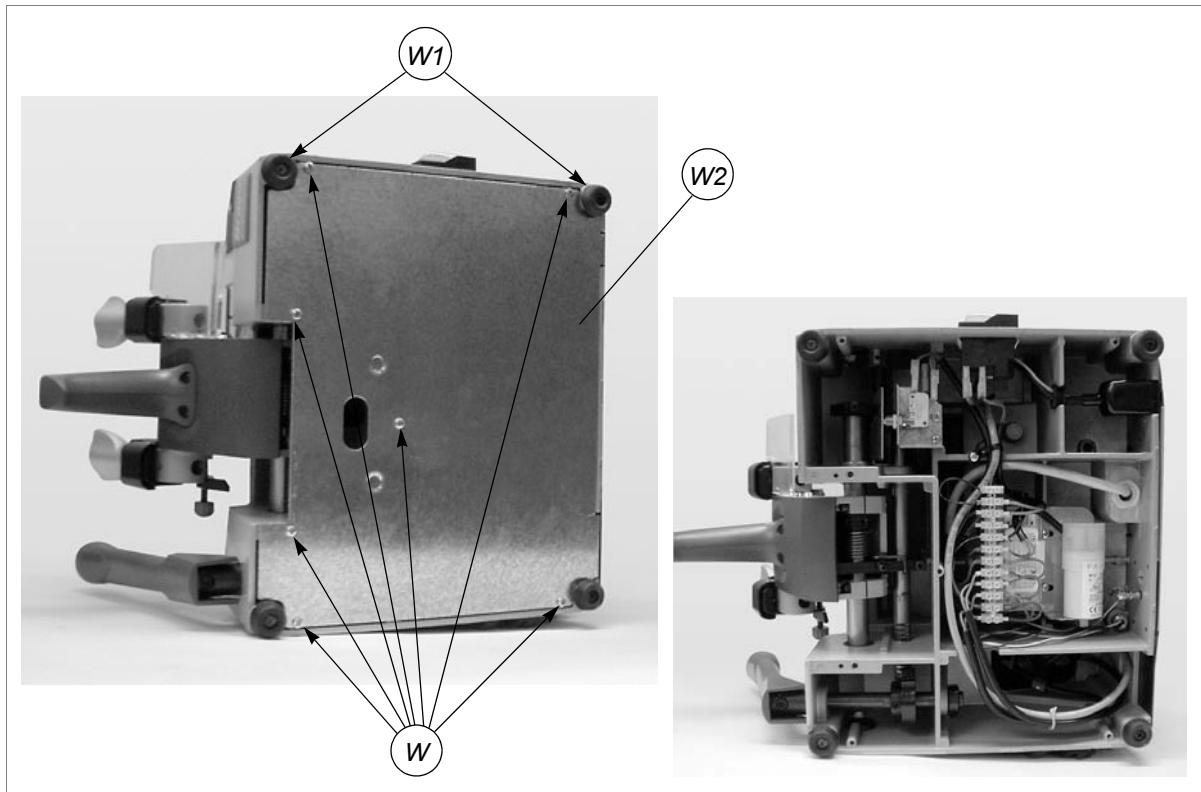
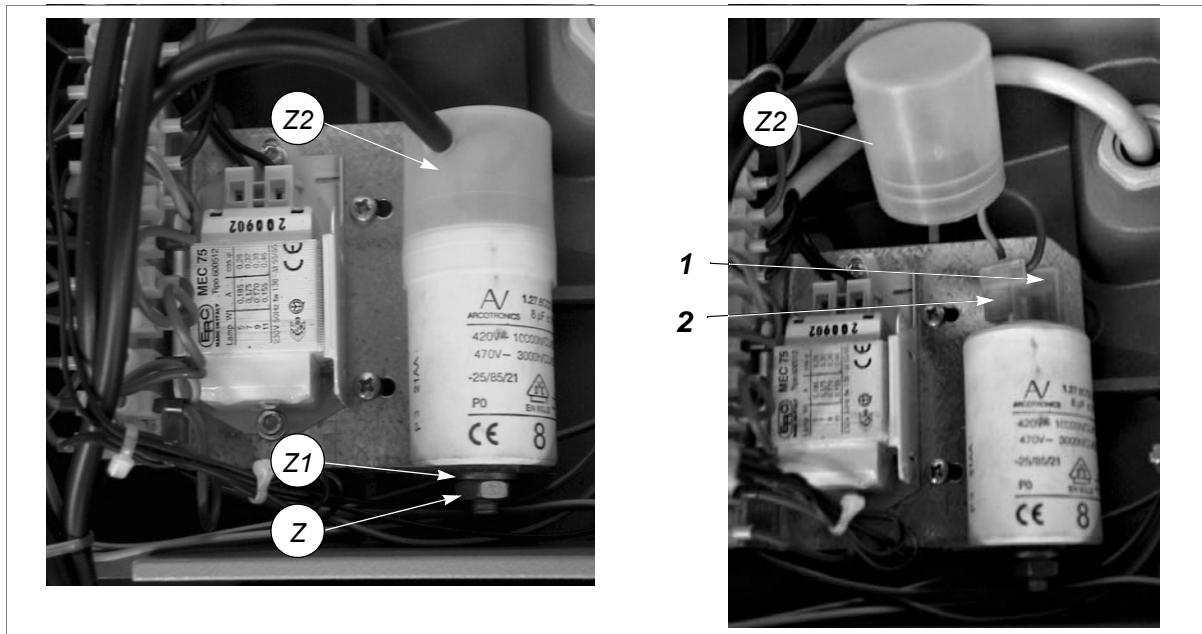
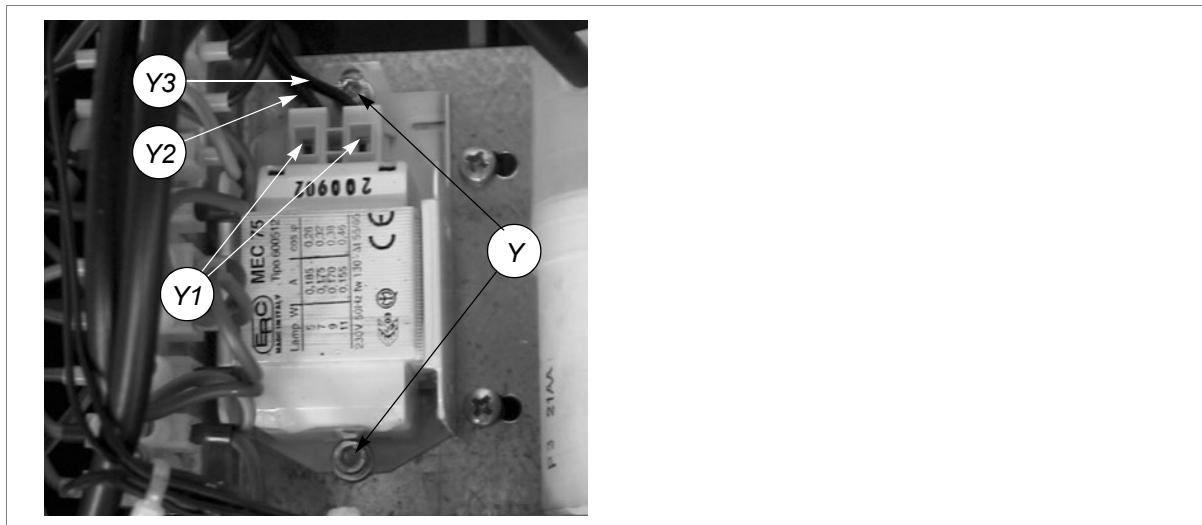

Fig. 32
Fig. 34
Fig. 35
- 4) Loosen the 7 screws (W) and 2 feet (W1) and remove the bottom safety plate (W2) (fig.32).
- 1) Loosen the nut (Z) and remove the washer (Z1) and condenser (fig.34).
- 2) Fit the new condenser and fix with the washer (Z1) and nut (Z).
- 6) Replace the bottom safety plate, fix with the 7 screws (W) and 2 feet (fig. 32, page 24). Fit the swarf tray.
- 1) Loosen the 2 screws (Y) and remove the reactor (fig.35).
- 4) Place the new reactor in its seat and secure with the 2 screws (Y).
- 5) Replace the bottom safety plate and fix with the 7 screws (W) and 2 feet (W1) (fig. 32, page 24). Fit the swarf tray.
- 9) Replace the bottom safety plate and secure with the 7 screws (W) and 2 feet (W1) (fig. 32, page 24). Fit the swarf tray.
- 5) Loosen the 7 screws (W) and 2 feet (W1) and remove the bottom safety plate (W2) (fig.32, pag.24).